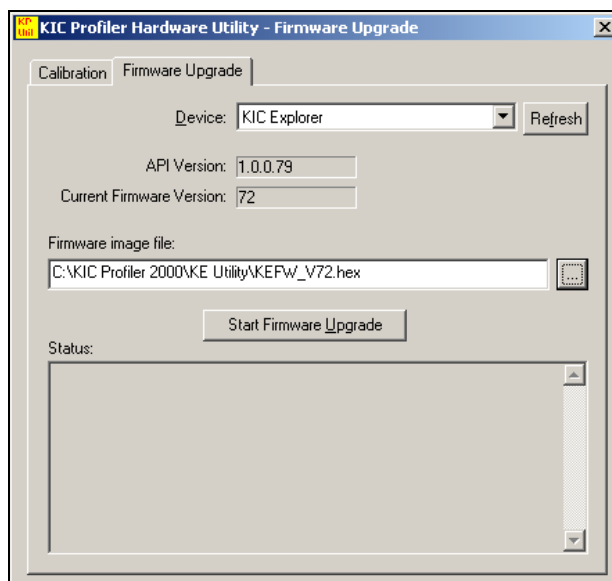

Figure 195: Start firmware upgrade
When you have selected the firmware file it will be displayed in the *KIC Explorer Firmware Image File* field. See Figure 195
4. Select the “Start Firmware Upgrade” button to begin the flash process. See Figure 195